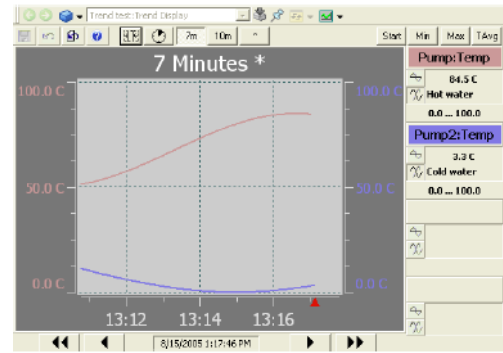

Figure 44. Trend Display Right View
- The Right View, that is, with the Item Area to the right, a Top Tool Bar and a Bottom Tool Bar (Figure 44).